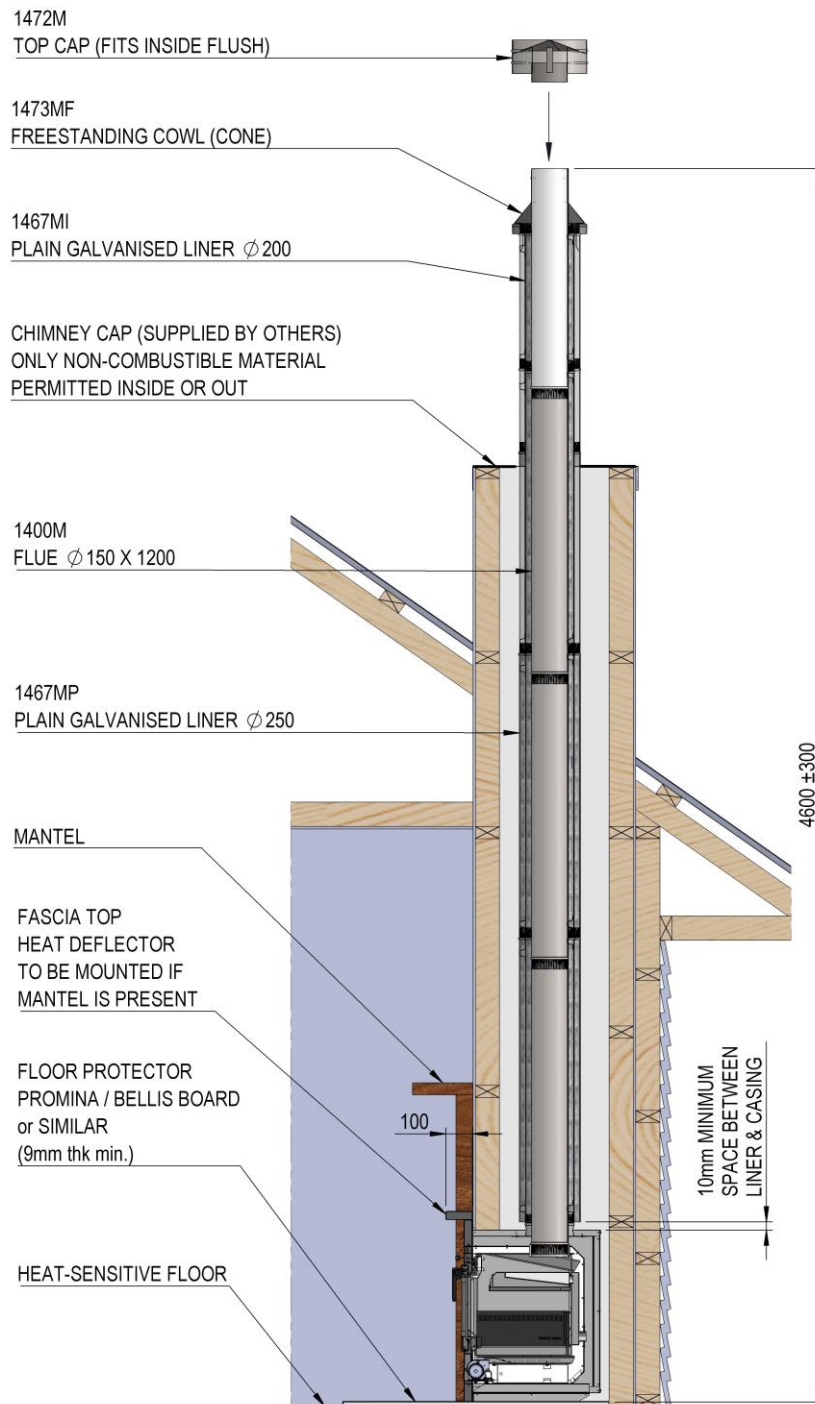

Fig. 3
For standard flue installations (Fig. 3); if any support is required under the chimney cap, it should be constructed of non-combustible materials only.
J. Typical Built-in (ZC) Flue Installation (Fig. 3)